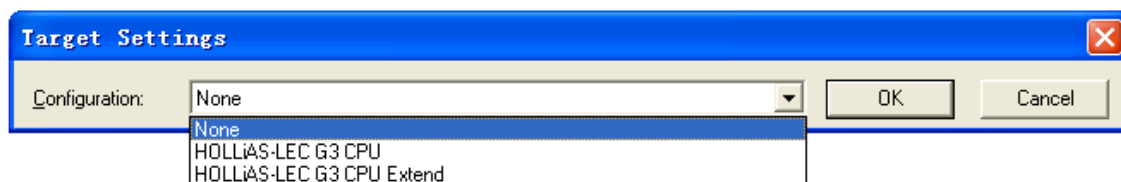

Figure 3-3-1 Target Settings
- Select “HOLLYSYS-LEC G3 CPU Extend” in the “Configuration” box. This target is for CPU modules with memory space of 120KB. Click “OK”, as shown in figure 3-3-1. Select “HOLLYSYS-LEC G3 CPU” if the memory space of the CPU module is 28KB. If you are not sure about the size of memory space, see appendix. Select “None” if you want to write new library instructions. Refer to section 7.4.5 for details about making libraries.